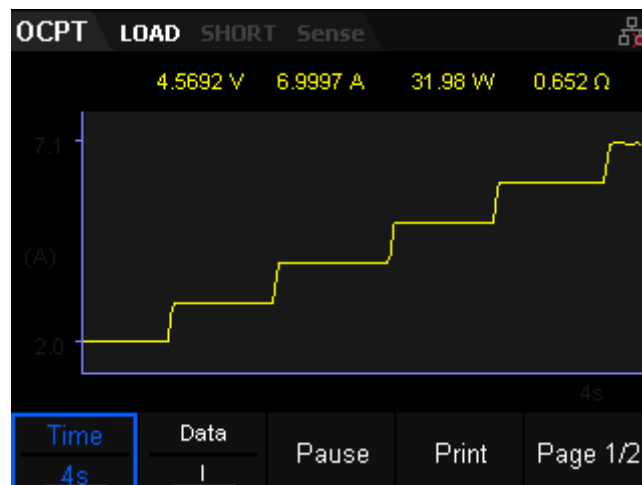

Figure 2-31 Waveform display interface of OCPT
Press **Display** key to enter the waveform display interface, as shown in figure 2-31. The sink current should have a stepped increase in the waveform when viewing current (I) data. . Press the **Display** key again to exit the waveform display interface and return to the main interface of OCPT test mode.